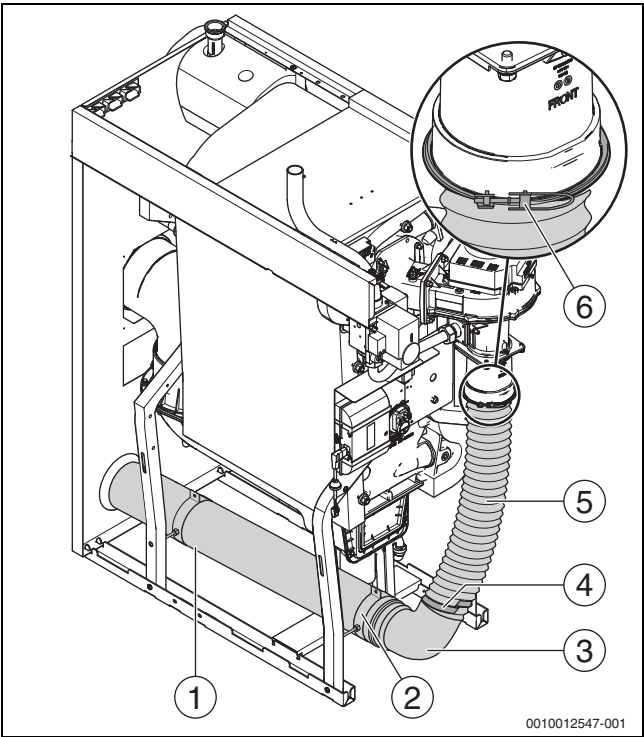

Fig. 14 Accessory set for room sealed operation
- Mount adapter (→ Fig. 14, [6]) on the intake connector of the burner and secure with hinged pipe clip.